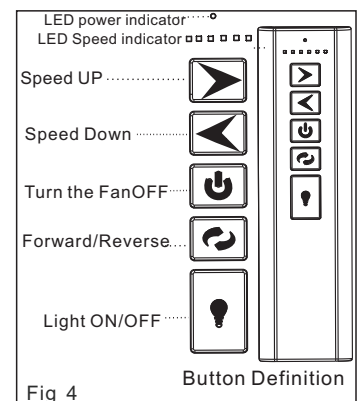

Fig 4
4. The buttons on the remote control transmitter control the fan speed and light as follows. (Fig. 4)